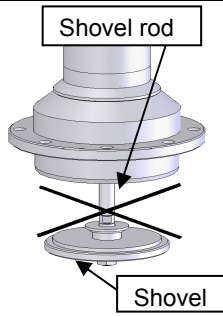

Fig. 3 Shovel part
- Do not put your hand between the pump body and shovel. Hand injury may be caused by a sudden movement. (Fig. 3)
- Before installing the pump, verify that the shovel at the bottom is NOT sticking out. Failure to follow this instruction may result in damage to the shovel rod causing a pump failure. (Fig. 3)